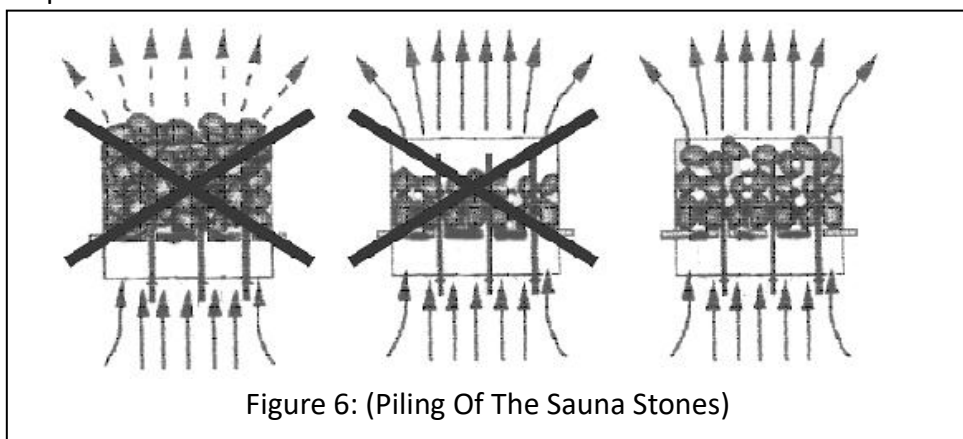

Figure 6: (Piling Of The Sauna Stones)
- **The stones should not be placed too tightly or too loosely. The stones should averagely cover the heater element. (See figure 6).**